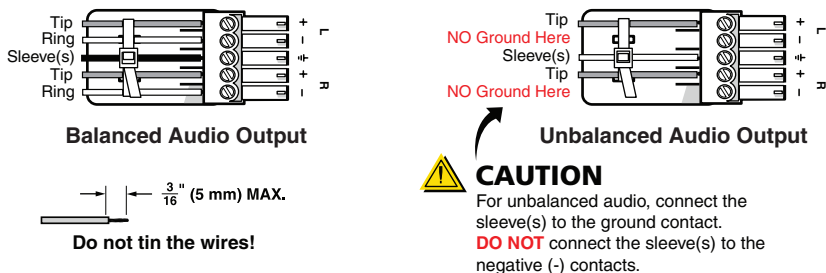

Figure 2-8 — Audio output connector wiring
- 8 **Stereo audio 5-pole captive screw connector** — Connect audio devices, such as an audio amplifier or powered speakers, to these connectors. These 3.5 mm, 5-pole captive screw connectors output unamplified, line level audio. Figure 2-8 shows how to properly wire an output connector.